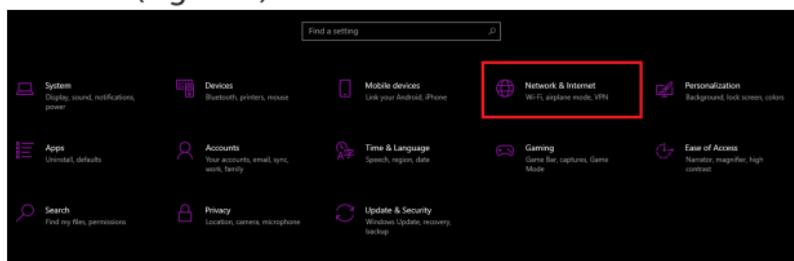

Figure 4
5. Navigate to **System Settings** and select **Network & Internet**. (Figure 4)